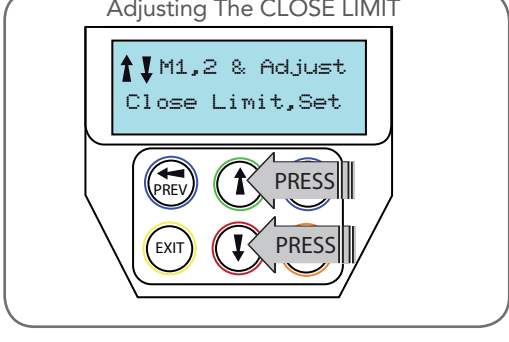

Fig 8.4
- b. Drive the motor using the UP and DOWN arrows on the console keypad (**Fig. 8.4**).